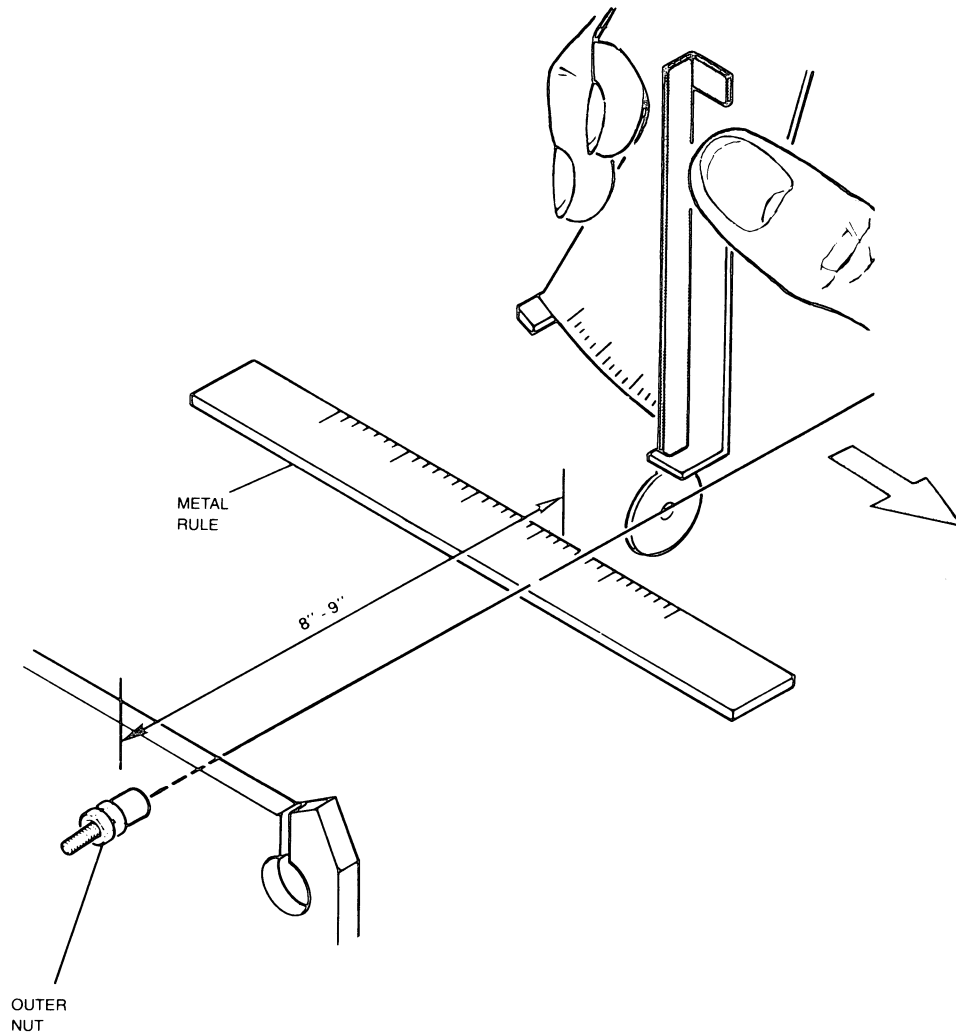

Figure 5.46 Ribbon Drive Cable Adjustment Setup
2. Place the 6-inch metal rule underneath the cable approximately 8 or 9 inches from the end plate. Orient the rule as shown in figure 5.46.